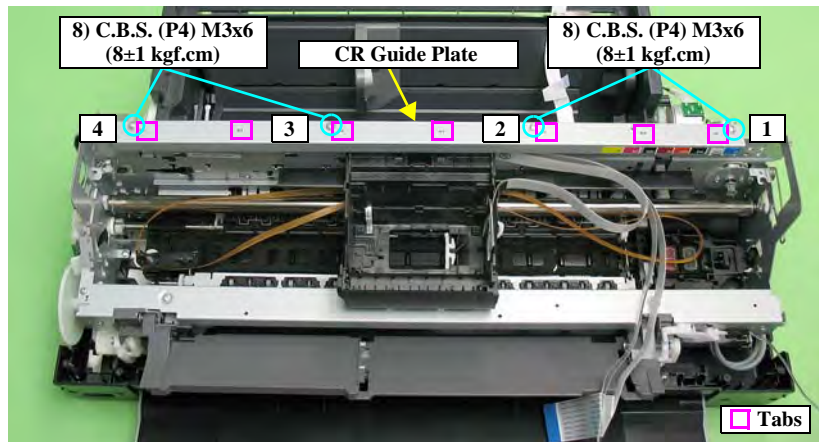

Figure 4-76. Removing the CR Guide Plate
- Align the positioning holes on the CR Guide Plate with the seven tabs on the Main Frame. See Figure 4-76.
- Tighten the screws in the order shown in Figure 4-76.